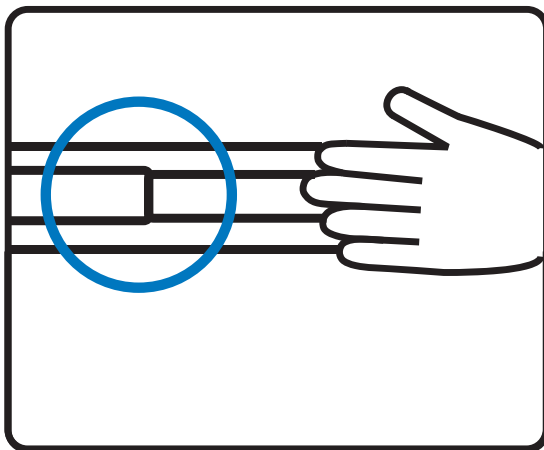

Figure 3.
- Push the LCD keyboard drawer into the rack. (shown in **Figure 3**).